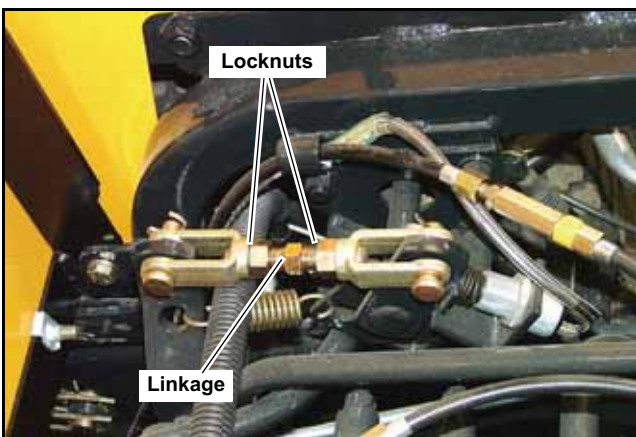

Figure 4-30
3. Loosen the locknuts on the PTO adjustment linkage. Figure 4-30